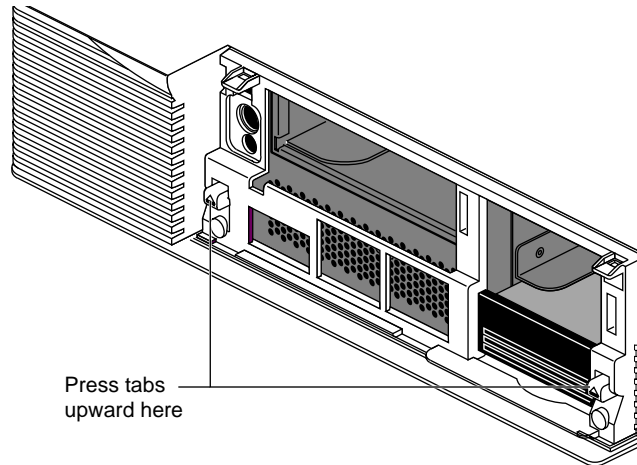

Figure 4-5 Releasing the Top Cover
- Press up on the tabs on each side of the drive openings and pull up on the cover, as shown in Figure 4-5.